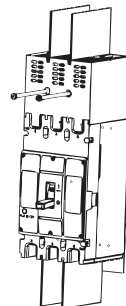

Figure 4
4. Finally, use screws to fix the arc baffle on the arc hood, as shown in Figure4